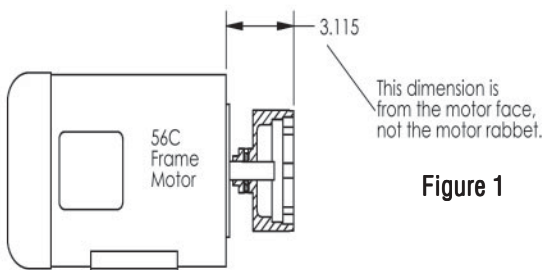

Figure 1
2. Slide drive magnet assembly (item 6) onto the motor shaft until it is between 3.110" and 3.120" as measured from the motor face to the top of the drive magnet assembly. See Figure 1. Align set screw (item 6B) with flat or key slot on the motor shaft and tighten both set screws with a 5/32" Allen wrench to 70 in.-lbs.(7.9 N-m).